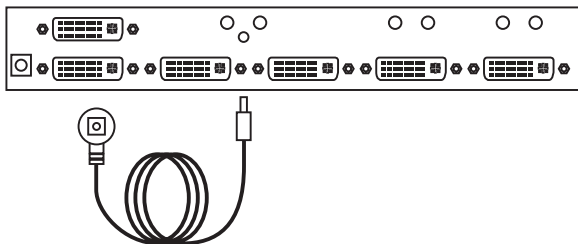

Figure 6-3. Connecting the external sensor.
1. Connect the external sensor. See Figure 6-3.